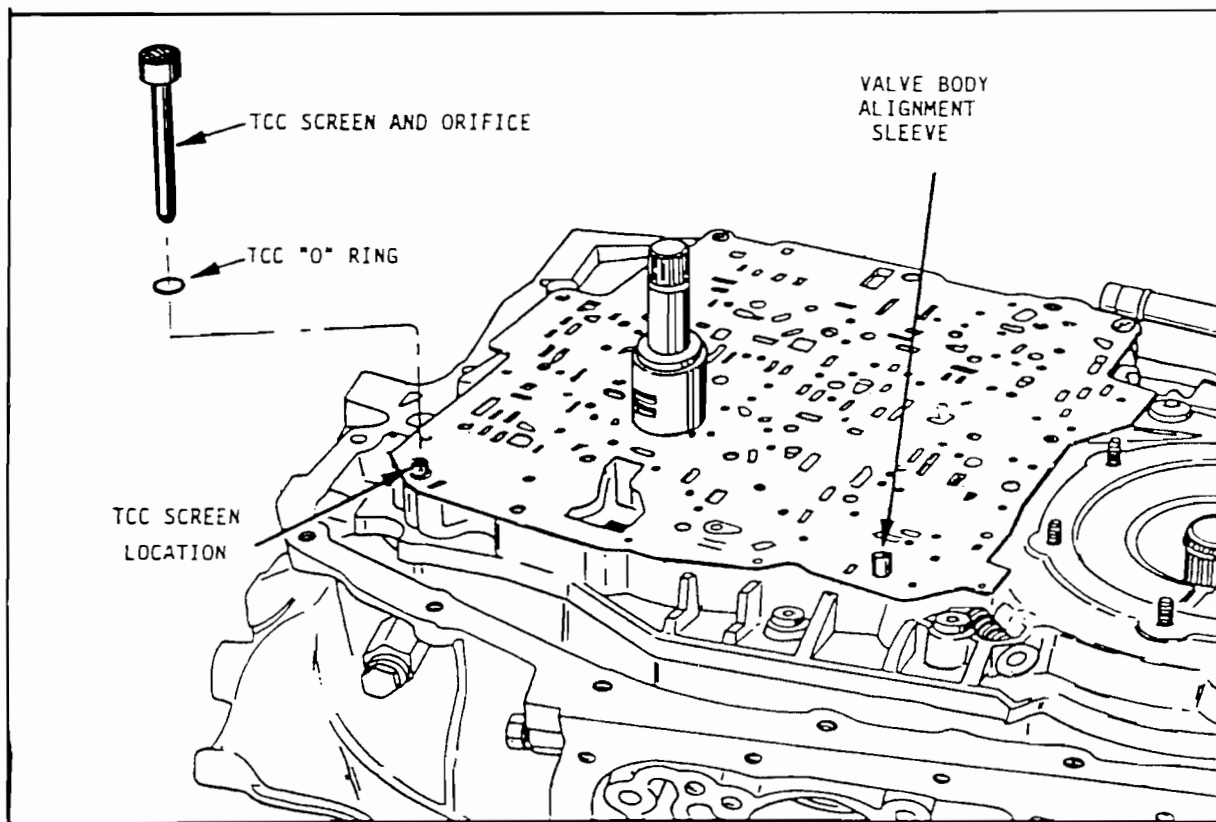

Figure 62
- CAUSE: The cause may be a missing TCC screen and orifice (See Figure 62). If the TCC screen and orifice are left out of the 440-T4, the converter clutch will apply on the 1-2 shift because of the solenoids inability to exhaust TCC signal oil there by stroking the lock-up valve. The TCC screen and orifice must be in place, as well as the "O" ring (See Figure 62). The TCC screen "Snaps" into the spacer plate.
- CORRECTION: Install the TCC screen and "O" ring into spacer plate in location shown in Figure 62. First install "O" ring on TCC screen and then "Snap" into place in the spacer plate. OEM part numbers as follows;